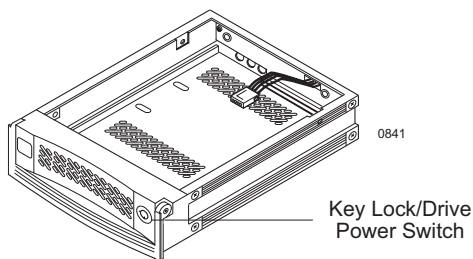

Figure 4: Drive Carrier
(Figure 4)
- **Key Lock/Drive Power Switch** (Figure 4) - Performs three functions. The key switch assures proper seating of the drive carrier within the receiving frame, turns power to the drive carrier ON and OFF, and prevents unauthorized removal or installation of the carrier. For the computer to access data on the disk drive, the key must be turned counterclockwise to the locked position.